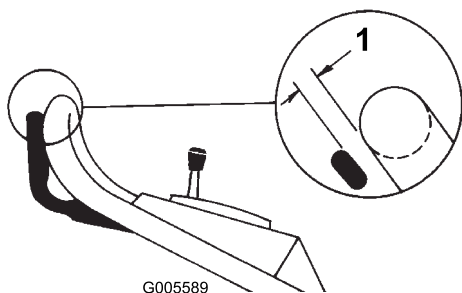

Figure 23
5. Lift the control bar until you feel some resistance. The control bar should be 1-1/2 inches (4 cm) from the handle when it is properly adjusted (Figure 23).
7. Tighten the bottom jam nut to lock the top jam nut against the support block (Figure 23).